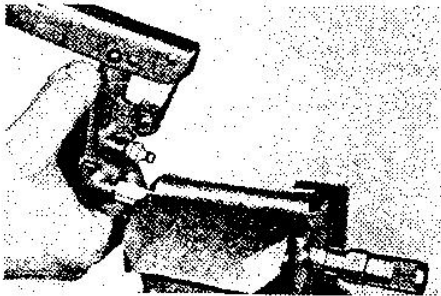

FIG. 13 - Remove extension from the 6594 Gun.
- b. Place extension in vise and turn head and lever assembly counter-clockwise until disengaged from extension (Fig. 13).